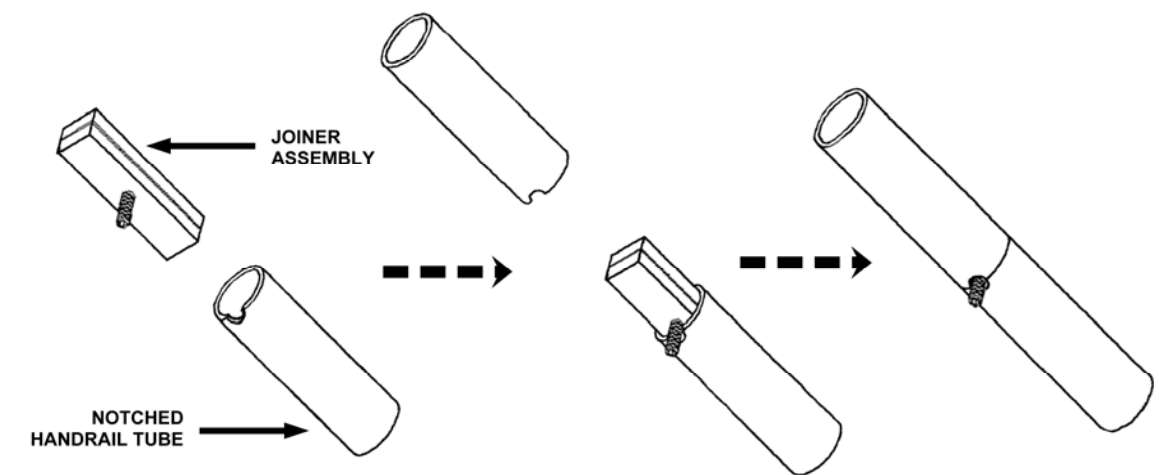

FIG. 24
- B) When used in a multiple ramp run, joiner assemblies are used to connect handrails together. Refer to FIG. 24 for following steps: